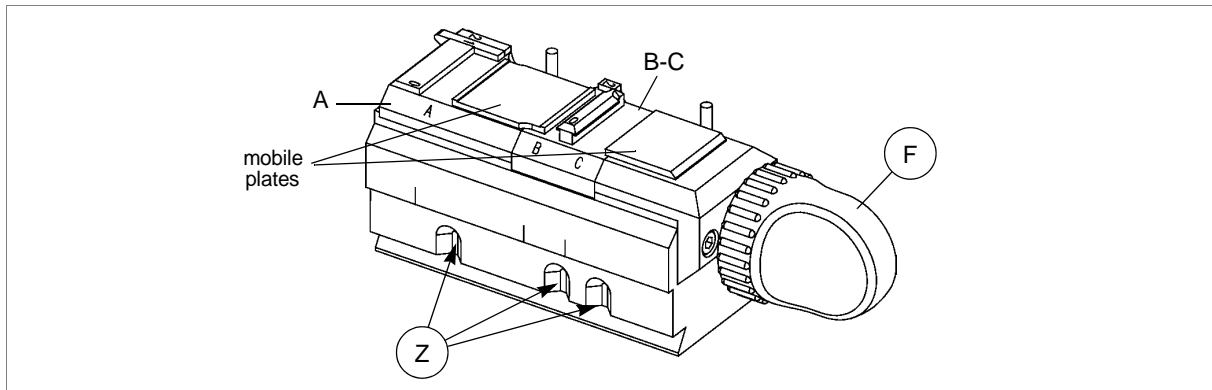

Fig. 13
The machine is provided with the standard clamp shown in fig. 13.
As illustrated in fig. 13, the clamp has 3 fixed plates (A-left; B/C centre; right) and 1 mobile double plate. Two of the fixed plates (A e B/C) plus the mobile double plate can be replaced when worn. The clamp has 2 vertical cylindrical pins to detect/recognise the clamp by electric contact. The A clamp comes with 3 Stops (0-1-2) for keys to be decoded or cut with jaw A. The B clamp comes with 2 Stops (0-2) for keys to be decoded or cut with jaw B. The C clamp comes with 1 Stop (0) for keys to be decoded or cut with jaw C. The clamp has 3 position notches (Z) so that it can be easily accommodated in the required position (Clamp A, B or C). When the (F1) handle is loosened by at least one turn and the anatomic grip (F2) is pulled towards the front of the machine the clamp is released therefore can slide to the right or left. When the (F2) anatomic grip is released and the clamp is manually moved, the positioning device will lock the clamp into the first position notch it finds. When the clamp is in the required position (jaw A, B or C) the (F1) handle should be tightened.